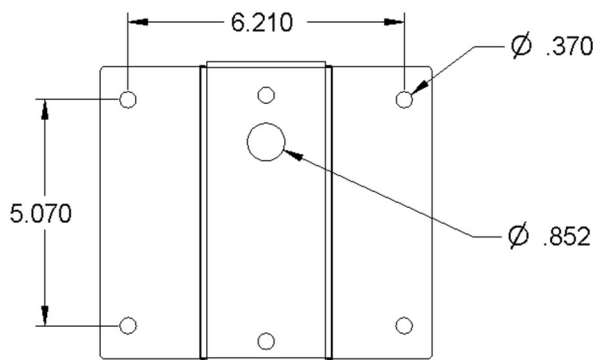

Figure 1
1. Align mounting plate to desired location and mark mounting locations. Prepare surface (drill, etc) for fasteners (provided by others) and wiring. (Figure 1)